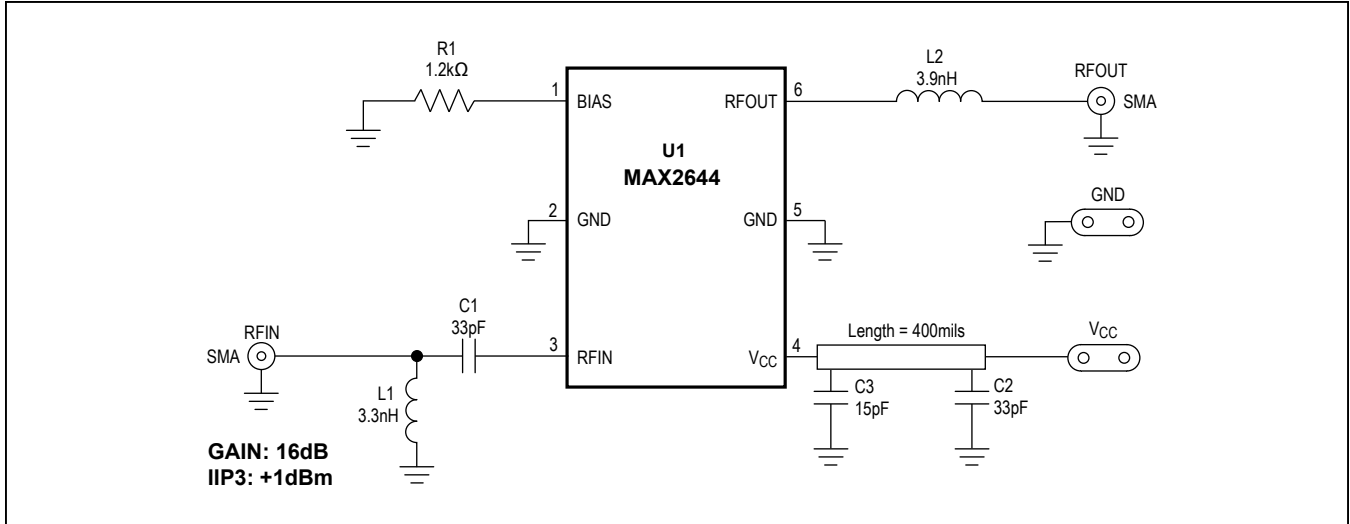

Figure 2. High Linearity Design
- Note 5:** Measured with two input tones (f₁ = 2445MHz, f₂ = 2455MHz) both at -30dBm per tone. Input IP3 can be improved to +1dBm with circuit shown in Figure 2.